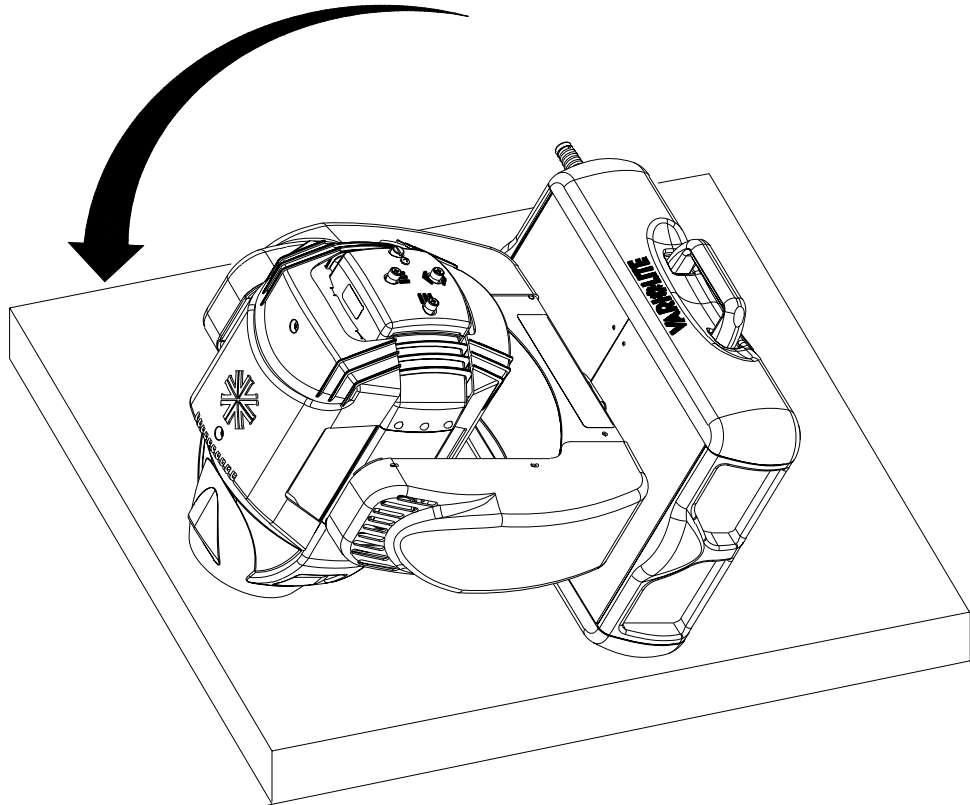

Figure 2-20: Laying Luminaire on Its Side
Step 4. Carefully lay luminaire on its side as shown in **Figure 2-20**. Make sure that lens does not come into contact with any surface..